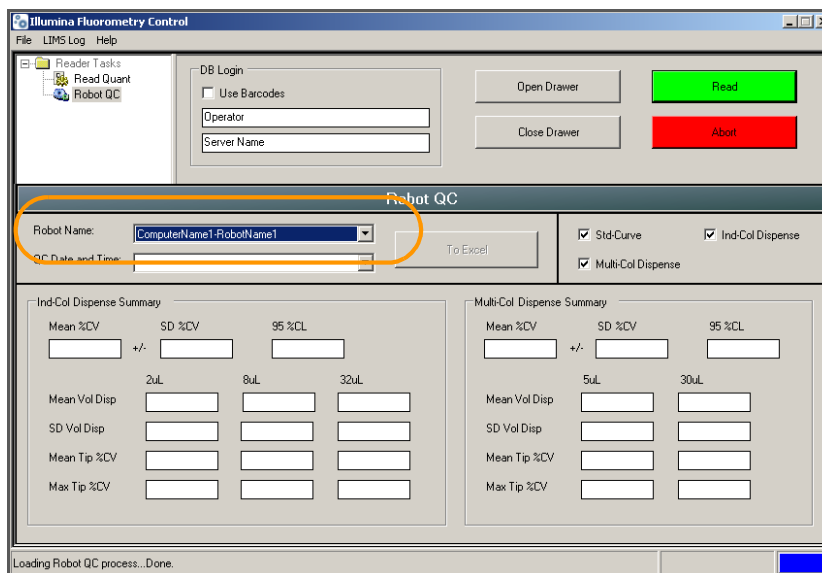

Figure 81 Robot QC Screen with Robot Name & Tasks Selected
2. In the Robot QC pane, select the Robot Name to specify which robot is being tested (Figure 81).
- In the adjacent pane, select the QC task checkboxes to indicate which QC plates you will be measuring (Figure 81). Uncheck the Std Curve checkbox if you want to use a previously read standard curve plate. Check the Std Curve checkbox if you want to read a new standard curve plate.